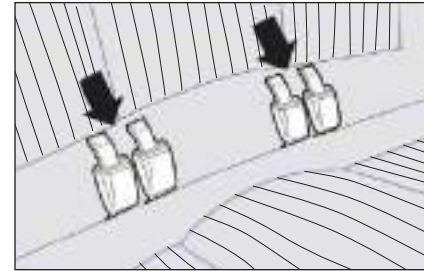

fig. 104
- ❑ fasten the buckles to the tabs (shown by the arrows) on the backrest **fig. 104**;